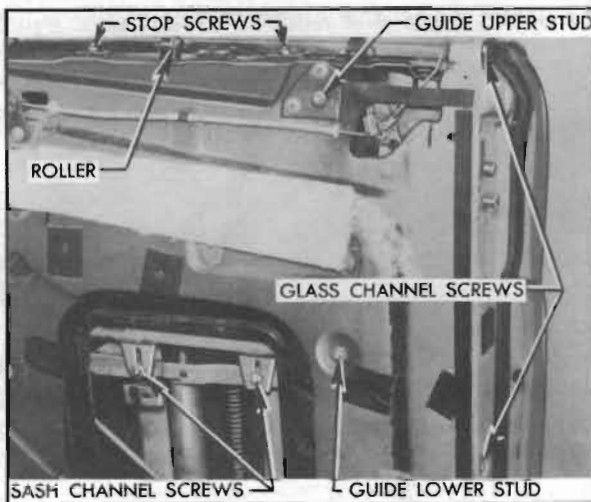

Figure 13-34—Door Window Adjustments
2. To adjust *upward* limit of travel of window glass for alignment with roof side rail weatherstrip and top of ventilator division channel, adjust the stop screws located on upper edge of door inner panel. See figure 13-34.
To make this adjustment on a *hydraulically operated* window glass, loosen the sash channel screw nuts (fig. 13-34) and move window glass on regulator as required, then tighten nuts.
4. To adjust window glass *laterally* (in or out) for proper vertical line of travel, raise the glass and loosen the glass channel screws in lock pillar face of door. See figure 13-34.